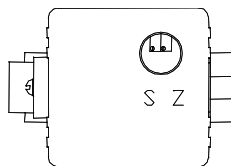

Figure 1
4. Locate the plastic calibration access cap on top of the QB valve and completely remove it. Located underneath are two adjustment trim pots, Zero "Z" and Span "S". See figure 1 for pots location.